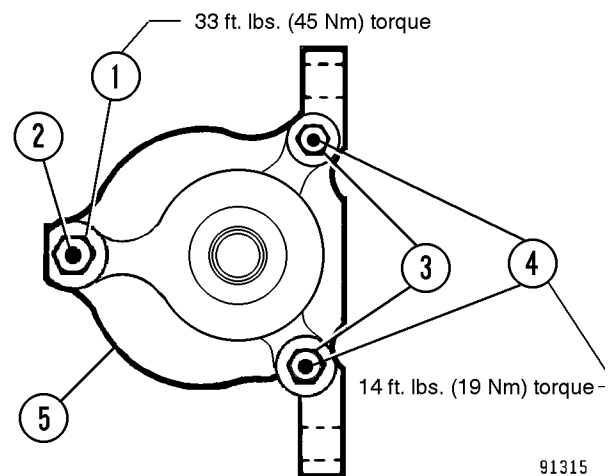

FIGURE 8-16. TIE ROD NUT TORQUE
5. Install the tie rods. Install and tighten the tie rod nuts to the torques shown in Figure 8-16.